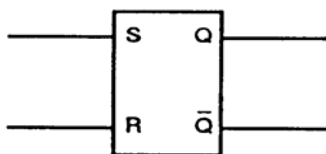

Figure Q-23. R-S Flip-Flop
(1) This is not true with FFs. You must not only know what the inputs are but what they were before. Only then can you predict what the output should be. FFs fall into a class called sequential logic.
(2) In order to troubleshoot circuits containing FFs, you must have a good understanding of what happens to these units when they go through their sequence of events.
b. R-S Flip-Flops. Figure Q-23 shows the R-S FF consisting of two inputs and two outputs. One of the inputs is labeled R (Reset) and, when activated, causes the R-S FF to assume the RESET (CLEAR) condition. When the S (SET) input is activated, the FF assumes the SET condition. The outputs are